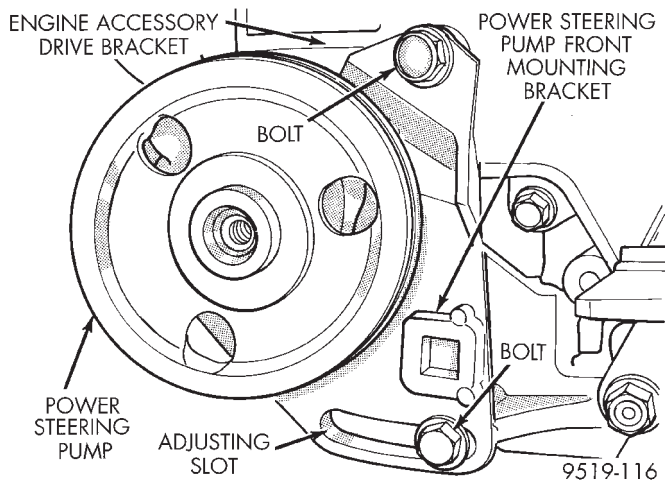

Fig. 39 Power Steering Pump Front Bracket Attachment
(10) Remove bolt at adjustment slot, (Fig. 39) attaching the power steering pump front mounting
bracket to cast aluminum accessory drive bracket on engine. Then remove bolt (Fig. 39) at top of power
(1) Install power steering pump, mounting bracket and fluid supply hose as an assembly back in vehicle, using reverse order of removal. **Be sure power steering fluid supply hose is correctly routed up to the power steering fluid reservoir when installing power steering pump.**
(2) Install power steering pump and front bracket on the cast aluminum accessory drive engine bracket (Fig. 39). Then loosely install bolt at adjusting slot and top of power steering pump front bracket (Fig. 39) mounting pump bracket to accessory drive bracket.